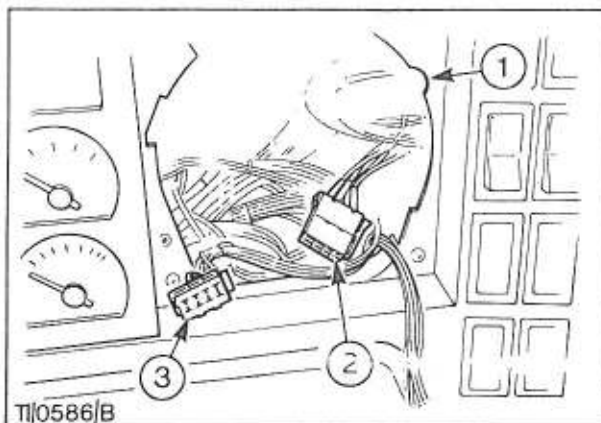

Fig. 3. Tachograph Removed
6. Disconnect the white and yellow connectors from the rear of the tachograph and remove it from the vehicle (see Fig. 3.).